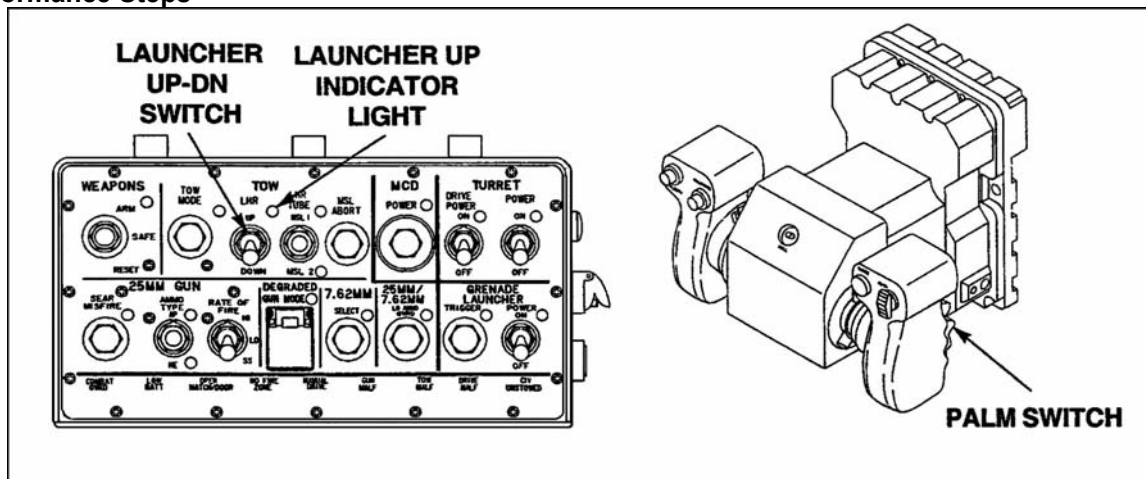

Figure 3. TOW launcher switch.
c. Raise the TOW launcher (Figure 3).